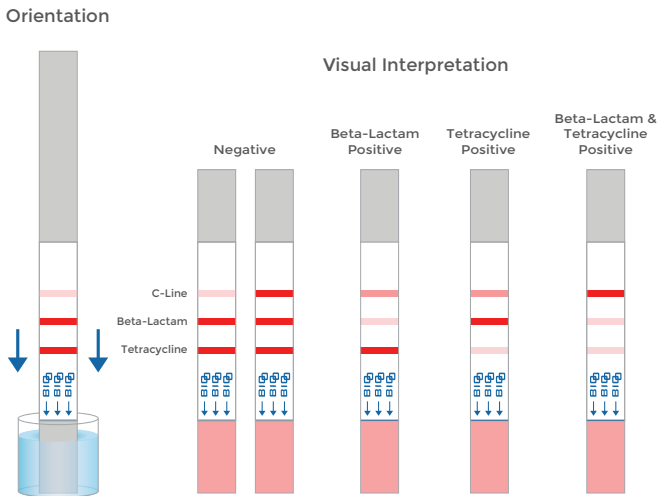

Figure 1. Test Strip Orientation and Test Interpretation
8. After 3 min, insert the bottom of the test strip into the well containing the milk sample (see Figure 1). The strip should be inserted such that the arrows are pointing down. Be sure the strip is oriented vertically (not leaning to the side) and is inserted all the way to the bottom of the well. Set a timer for 4 min.
10. Immediately visually examine the intensity of the signal at each test line and compare the intensity to the C-line. Interpretation of results: Signal at a test line which is more intense than or equal to the signal at the C-line indicates the milk sample is negative for presence of that category of antibiotics. Signal at a test line which is clearly less intense than the signal at the C-line indicates the presence of that respective category of antibiotics in the milk sample. See Figure 1 for representative results.